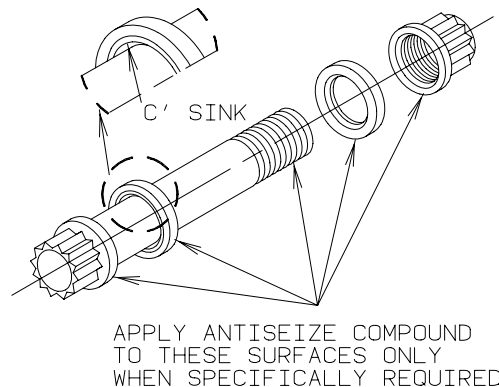

Figure 312 - Wheel Tie Bolts
NOTE: All Torque values listed on Cleveland Products are considered to be “DRY TORQUE” values unless “LUBTORK” is specified. “LUBTORK” requires the application of an antiseize compound conforming to MIL-T-5444 or MIL-T-83483 to all friction surfaces as shown in Figure 312. Only use the antiseize specified for your wheel assembly.
- 2 Install bolts through brake disc and wheel halves. Both plain and countersunk washers may be used. Some designs use bolts that have a radius between the head and shank, which requires the countersunk washers. Inspect bolts and washers prior to assembly. (Ref. Figure 312). Properly oriented washers with countersunk surfaces to sit flush against the bolt head. Install washers and nuts on bolts (bolt heads are to be on brake disc side of wheel). Torque nuts to value specified on wheel casting or nameplate, using a crisscross pattern until all nuts are properly torqued. Do not use power tools for the installation of nuts and bolts.